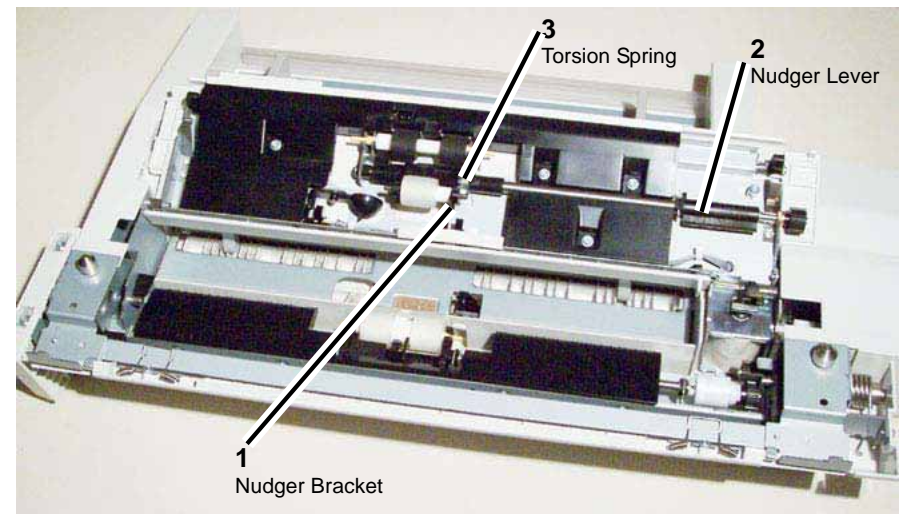

Figure 1 Nudger Bracket, Nudger Lever, Torsion Spring
2. Remove the Nudger Bracket, Nudger Lever, and Torsion Spring where shown in the Figure and as detailed in the Parts List. Figure 1
1. Install the Nudger Bracket, Nudger Lever, and Torsion Spring where shown in the Figure and as detailed in the Parts List. Figure 1